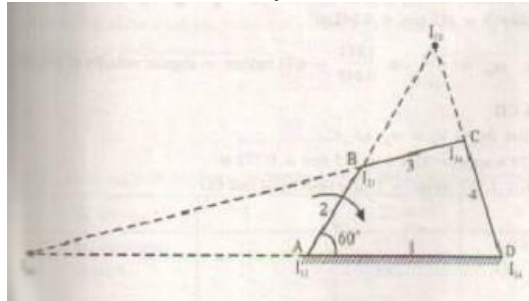

Fig. 2.10
1. A pin jointed four bar mechanism of link AB=150 mm, BC= 180 mm, CD= 180 mm and the fixed link AD= 300 mm. link AB makes 60 degree with the link AD and rotates uniformly at 100 rpm. Locate all the instantaneous centers and find the angular velocity of link BC and the linear velocity of link CD as shown in fig 2.10